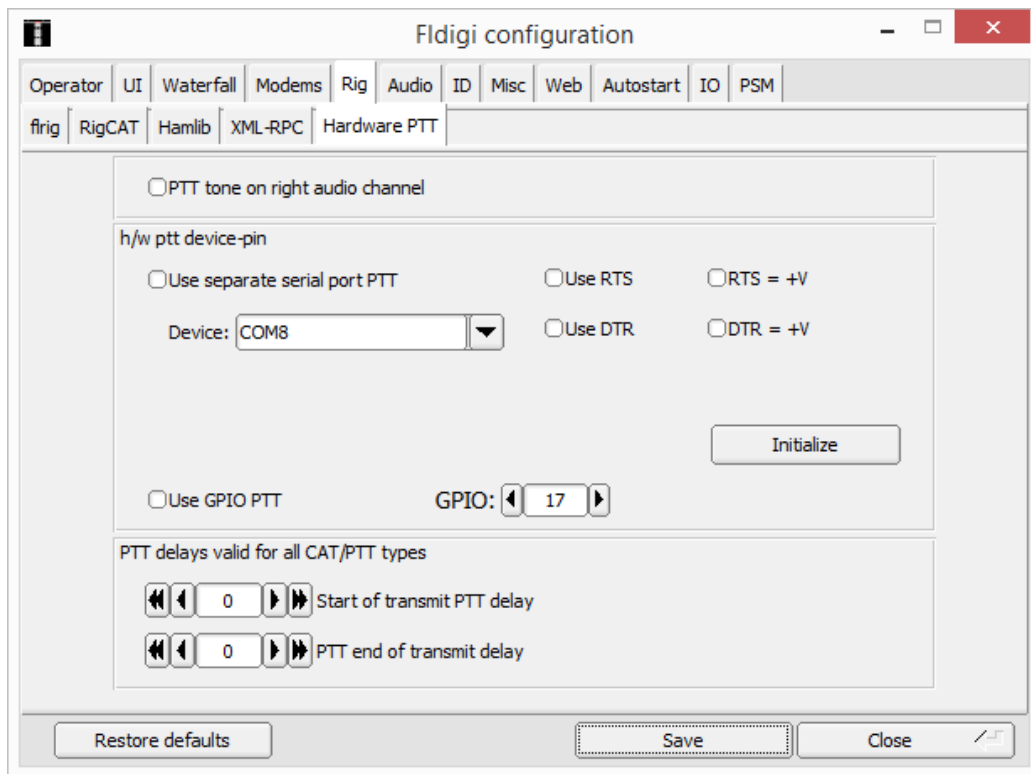

Figure 8: In the menu Hardware PTT of FLDIGI, you have to choose the matching “Device” (COM8) to key the transceiver.
- In FLDIGI’s configuration window, click “Initialize”, then “Save” – see Figure 8, next page.